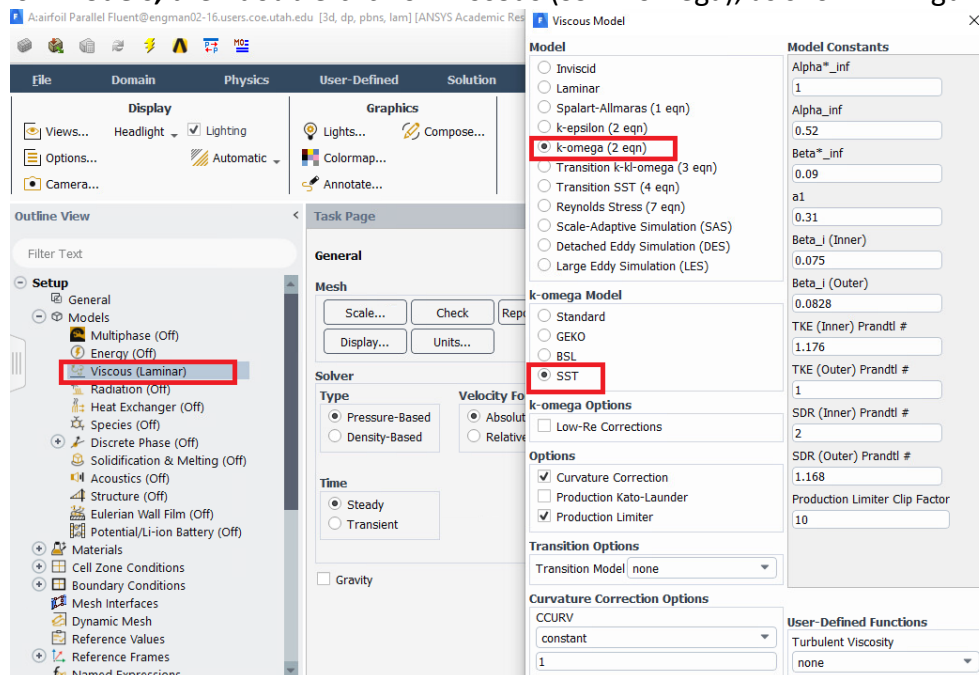

Figure 7. Setting up the fluid-flow models.
2.6.1. In the **Outline View** pane (upper left side of window), expand the **Setup** heading, and double-click on **Models**, then double-click on **Viscous** (SST k- ω), as shown in Figure 7.